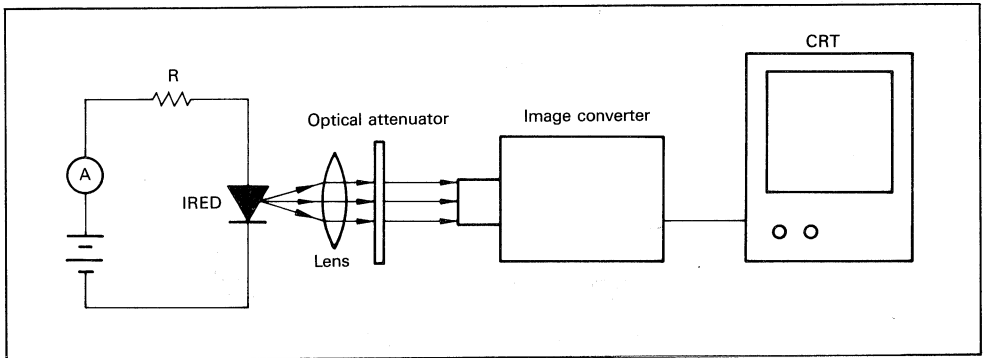

Figure IV-41. NFP Measuring Method
An NFP can be observed with an infrared camera by operating the IRED under continuous waves (CW) and collimating the emitted light to a parallel beam with a lens (see Fig. IV-41). The amount of incident light into the infrared camera should be controlled with an optical attenuator, since too much incident light causes halation.